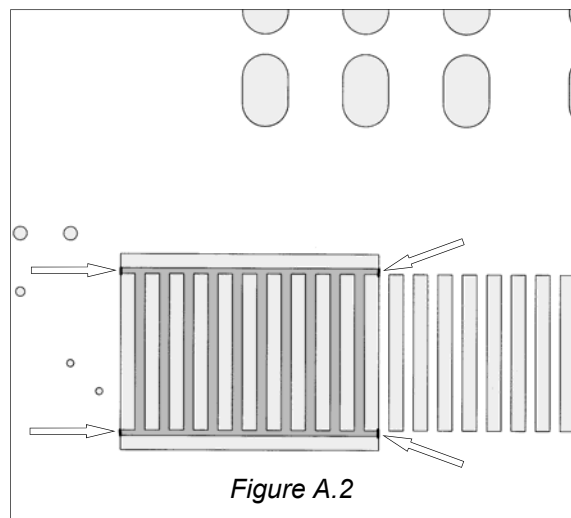

Figure A.2
- 8) Cut out slots in base panel of top unit for chimney (refer figure A.2).